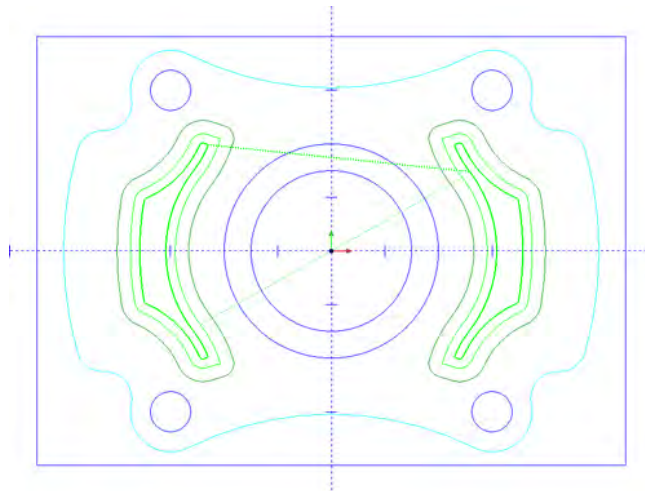

figure 23.1
23. For our example part, click on the **Other** menu and select **Rectangle**. Enter 11 for the **Width** and 8 for the **Height**. Make sure **Sharp Corner** is selected, and under **Origin** select **Enter** and **Center**. We will place the center of this rectangle at X0, Y0, Z0. Click **OK** and the part should now look like figure 23.1.